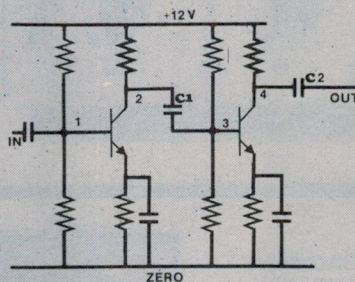

Fig. 3: early microphone preamplifier design. Coupling capacitors C1 and C2 isolate the collector DC potentials from the following stages.
Fig. 3 shows a very dated, and rather horrible, microphone preamplifier of medium gain. Glossing over such details as the awfully high output impedance, let's consider the average or quiescent circuit voltages. The base voltage divider on the input transistor provides a positive DC bias, some of which is cancelled by the emitter resistor (in a stabilising attempt). The quiescent voltage at the collector (2) is some function of the resultant bias, the transistor's temperature and the h_{FE} . These usually provide us with such a delightfully unpredictable set of numbers that it is very difficult to precisely predict the voltage at collector 2. But, you see, the world is indeed good to us for it doesn't matter at all.